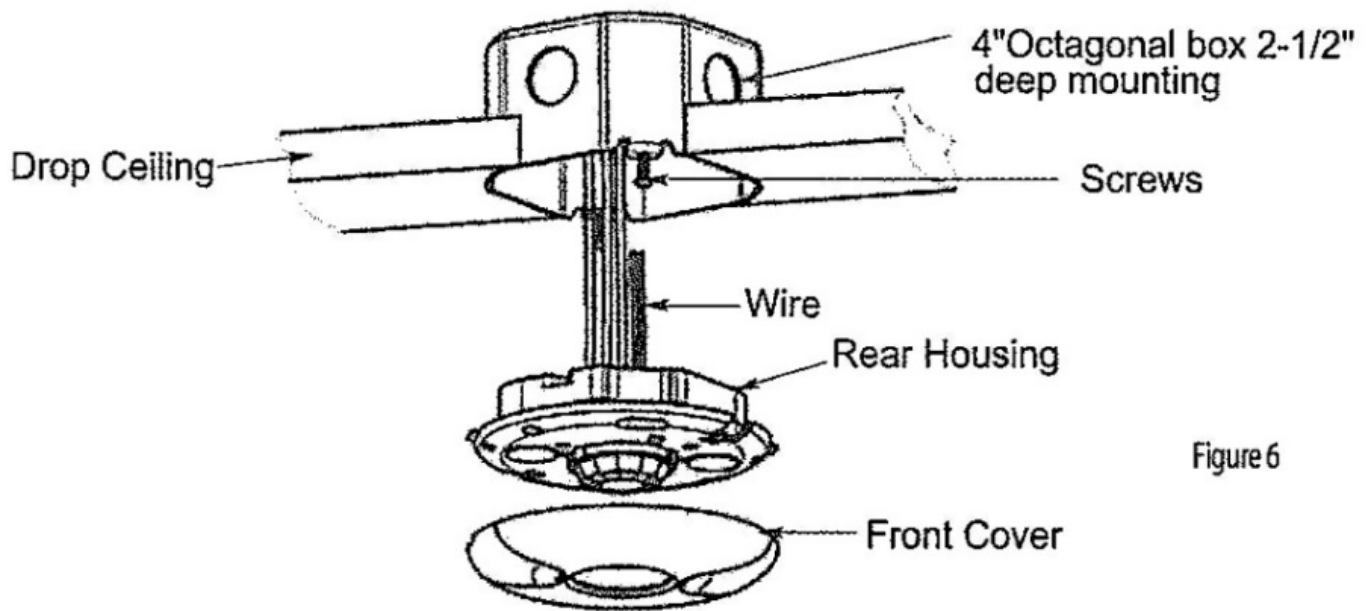

Figure 6
7. Snap the front cover onto the sensor(see Figure 6)